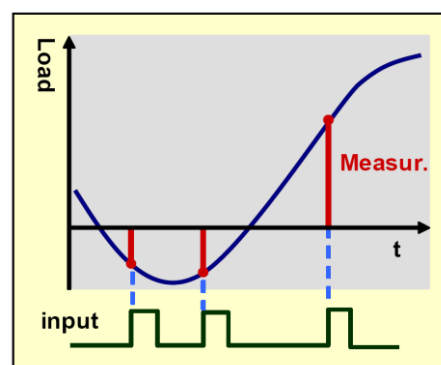

Fig. 3
8.2.1 Transmit measurement (fig.3) :